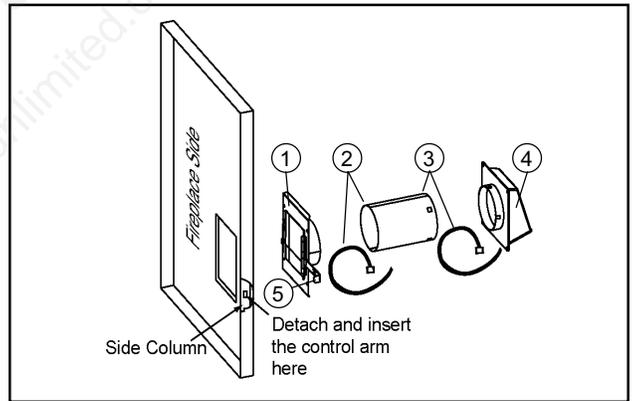

Figure 17 - Installing the Outside Air Kit
- a. **Installing the Damper of the OA Kit.** Insert the control arm through the rectangular opening in the side of the fireplace. The notches in the control arm should be placed downward. **The hinge on the damper should face toward the front of the fireplace.** If the hinge and the control arm are not positioned in this manner, the damper will not function correctly. Figure 17 demonstrates the correct order in which the air kit assembly should take place.